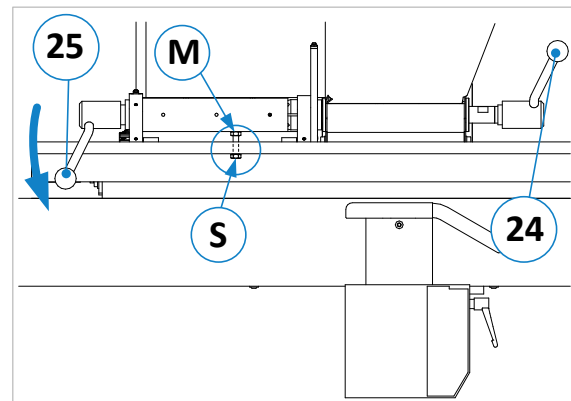

Figure 39: Calibrate angle to 90 degrees
2. To correct, open the clamping lever (**24**) and pull the adjusting lever (**25**) all the way forward (to 45° position). Loosen the now accessible lock nut (**M**) with an open-end spanner SW13 (see \Rightarrow Figure 39). Then adjust the screw (**S**) either inwards or outwards (as required) until the angle is exactly 90° again (\Rightarrow Figure 39).